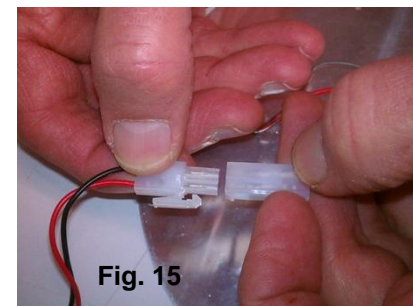

Fig. 15
5. Separate the LED DRIVER CONNECTOR from the PLATE CONNECTOR. (Fig. 15)
9. Connect the LED DRIVER CONNECTOR to PLATE CONNECTOR. (Fig. 15)